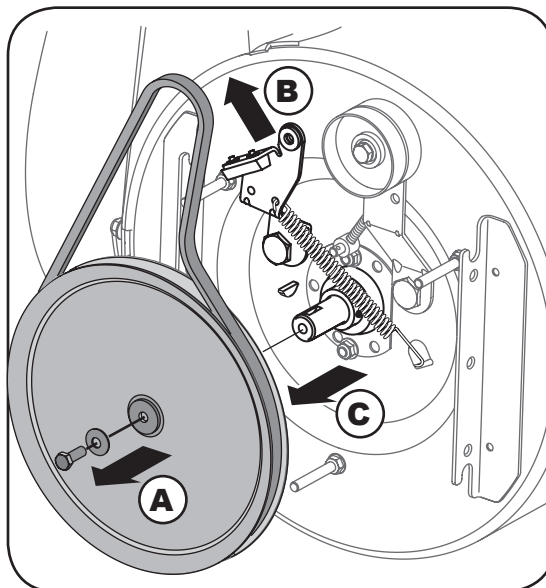

Figure 6-11
10. a. Using a 1/2" wrench, remove the hex screw and cupped washer from the center of the pulley on the auger housing. See Figure 6-11.